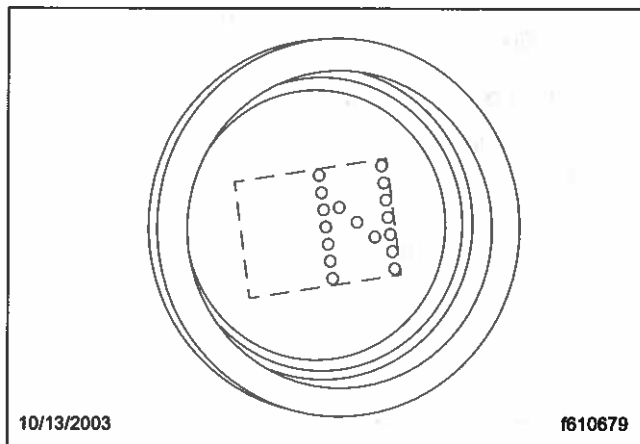

Fig. 8.11, Neutral Display
Neutral (N) is directly below R on the four-position selector switch located at the end of the SmartShift control lever. To select N, move the selector switch to the position below R. When neutral is selected, the letter "N" displays on the current gear indicator. See Fig. 8.11.